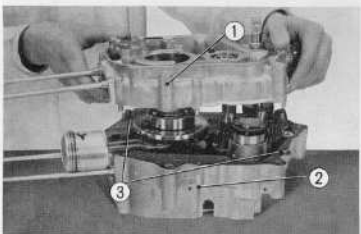

Fig. 3.85 Reassembling the crankcase
2. Assemble the right crankcase ① to the left crankcase, ② (Fig. 3.85)
**Caution:** Do not forget to install the two dowel pins, ③ (Fig. 3.85)